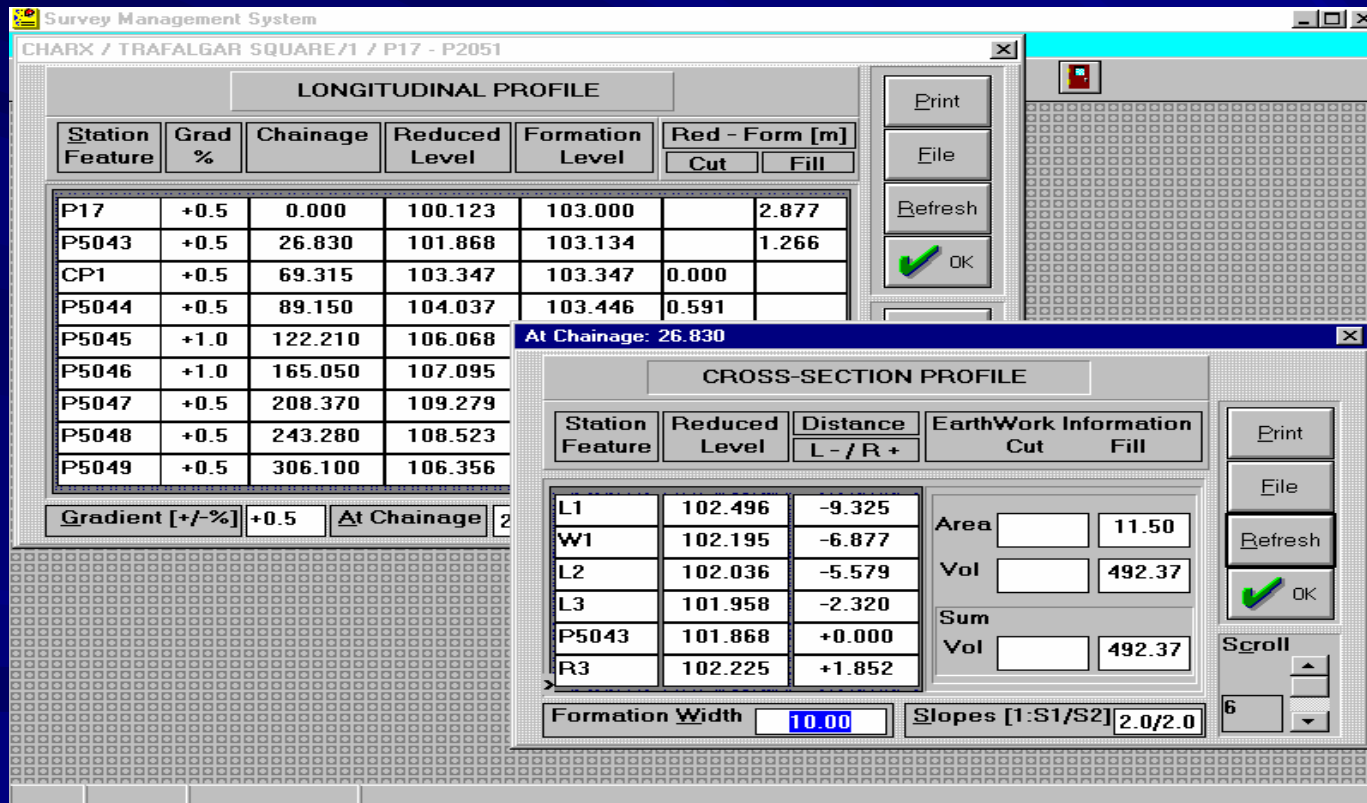

Fig. 8-1
- There is a dedicated database for this activity, Fig. 8-1.